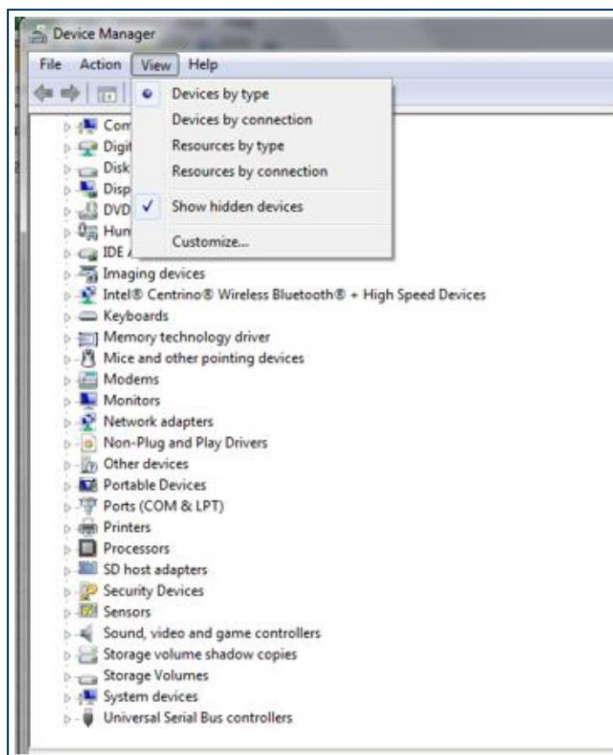

Fig. 18 – Device manager view selection
3. In the box that opens, select “Show hidden devices” in the “View” menu. See Figure 18.